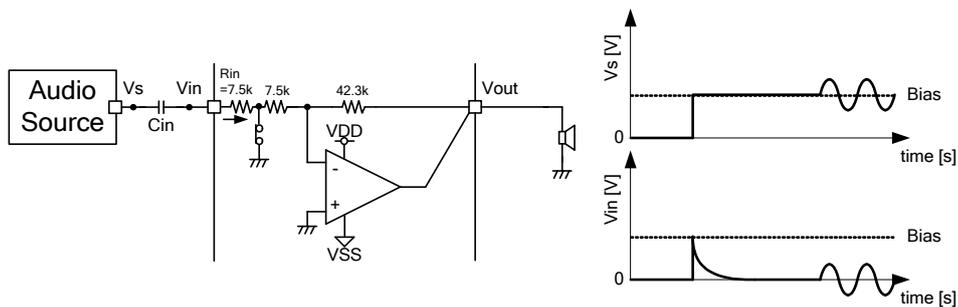

Figure 31. Fluctuation of input terminal voltage when charging input coupling capacitor
① The term from “PVDD, SVDD : ON” to “shutdown ON->OFF”
When power supply (PVDD, SVDD) is applied, it is started that charging input coupling capacitors. Therefore, the input terminal voltage “Vin” is changed as following Figure 31. Time constant “τ” of charging input coupling capacitor is decided by input coupling capacitor Cin and Internal input impedance Rin (See formula (1)). Internal impedance Rin in term of shutdown is 7.5kΩ(typ) for making time constant τ shorten. If “SDB” is changed “L” to “H” (shutdown ON -> OFF) during input DC voltage (Vin) is changing, pop noise may occur. It is recommended that shutdown ON -> OFF (“SDB” : L -> H) after 5τ ~ 6τ.